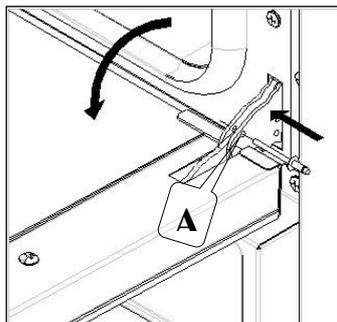

Fig. 4
2. Insert the provided plugs into the holes marked "A" in the hinge (Fig. 4);